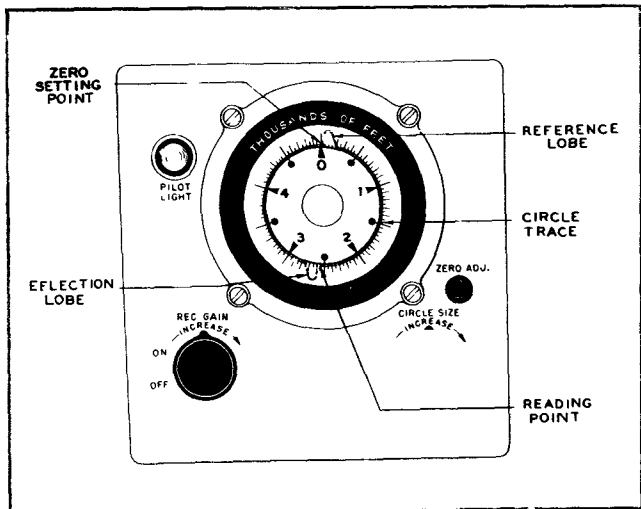

Figure 3-1. Indicator I-152-A and I-152-AM — Dial and Controls
(a) Adjust the "CIRCLE SIZE" control so that the circle trace is of a size required for normal operation. It will be of the proper size when it is just barely visible as a luminous ring at the outer edge of the black calibrated scale. (See fig. 3-1).
(1) The black circular scale on the indicator is provided with a 0- to 5000-foot altitude calibration. Calibration marks are provided for every 50 feet of altitude, and are spaced widely enough so that readings can be estimated to nearest 25 feet. To read the position of any pulse, determine the point along the scale where the counterclockwise edge of the pulse intersects the luminous green circle. For example: on the indicator shown in figure 3-1, the zero pulse is at 0 and the reflection pulse at 2500.
(2) Following take-off, the reflection pulse travels clockwise around the scale as aircraft height above ground increases. Until the aircraft reaches 5000 feet, read height merely by noting the positions of the pulses, (refer to par. 2 a (3) (b) 2 this section.) For example: pulse positions such as those in figure 3-1 would indicate 2500 feet.
(3) When the aircraft reaches 5000 feet, the reflection pulse will have progressed completely around the scale and will have returned to 0. As height above terrain increases up to 10,000 feet, the reflection pulse will travel clockwise on a second encirclement of the scale and 5000 feet must be added to the indication of the pulses. For example: pulse positions such as those in figure 3-1 would indicate a height of 7500 feet.
(4) When the aircraft reaches 10000 feet, the reflection pulse will have completed a second encirclement of the scale; and one further clockwise encirclement will take place for each additional 5000 feet of altitude attained. Similarly, a counterclockwise encirclement will take place for each drop of 5000 feet sustained.
(5) To obtain actual height above ground at any time, it is correct to add 5000 feet to the indication of the lobes for every previous clockwise encirclement and subtract 5000 feet from the indication of the pulses for every previous counterclockwise encirclement of the scale by the reflection pulse. However, it is generally more practicable to estimate the approximate height above ground (by use of an aneroid altimeter such as Kollsman and knowledge of approximate terrain height above sea level) and then to determine the exact height above terrain by adding to the reading of the indicator pulses an appropriate multiple of 5000 feet, such that the total closely checks the estimated height. For example: if the estimated height above terrain is 26,000 feet and the indication of the pulses is 1275 feet, then the exact height is 25,000 plus 1275 feet or 26,275 feet.